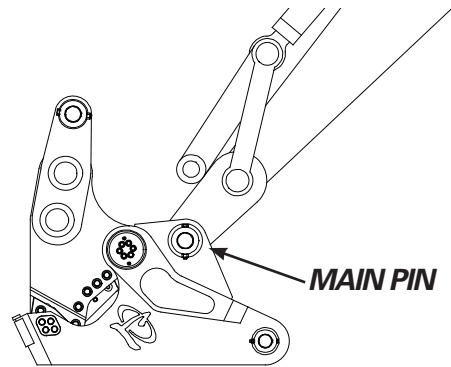

FIGURE 3-1
3. Walk the excavator into position and line up the excavator stick tip with the stick connection of the shear as shown in figure 3-1.